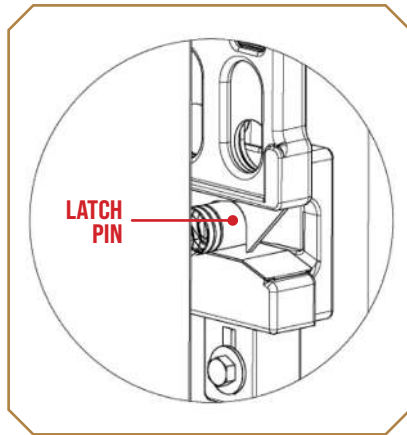

Figure 4
4. Finger tighten the latch to the post using the two screws and washers. With the screws snugged into position, swing the gate into the latch (Figure 4).